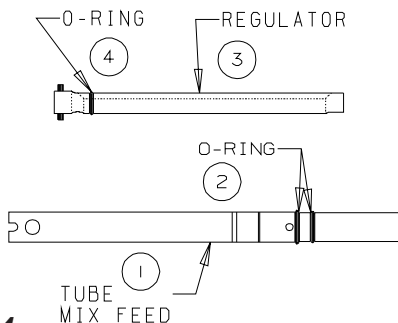

Figure 7-4
5. Remove the mix feed tube (figure 7-4) and mix float from the hopper. Remove regulator (3) from mix feed tube.